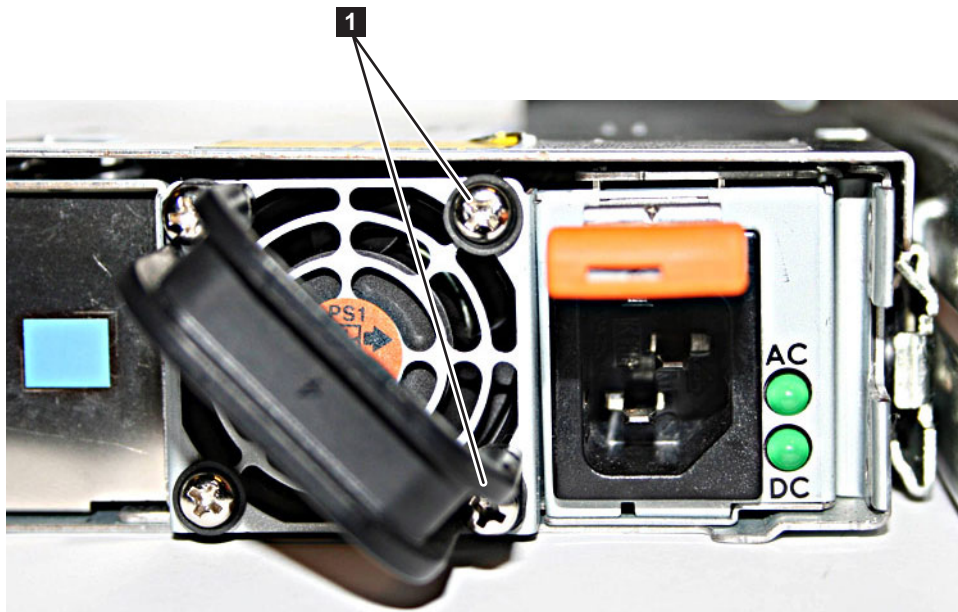

Figure 30. The SAN Volume Controller 2145-8G4 before you attach the cable-retention bracket
1. With the node powered off and the power cable removed, loosen and remove the two screws **1** on the right side of the rear plate that covers the power supply fan unit, as shown in Figure 30.